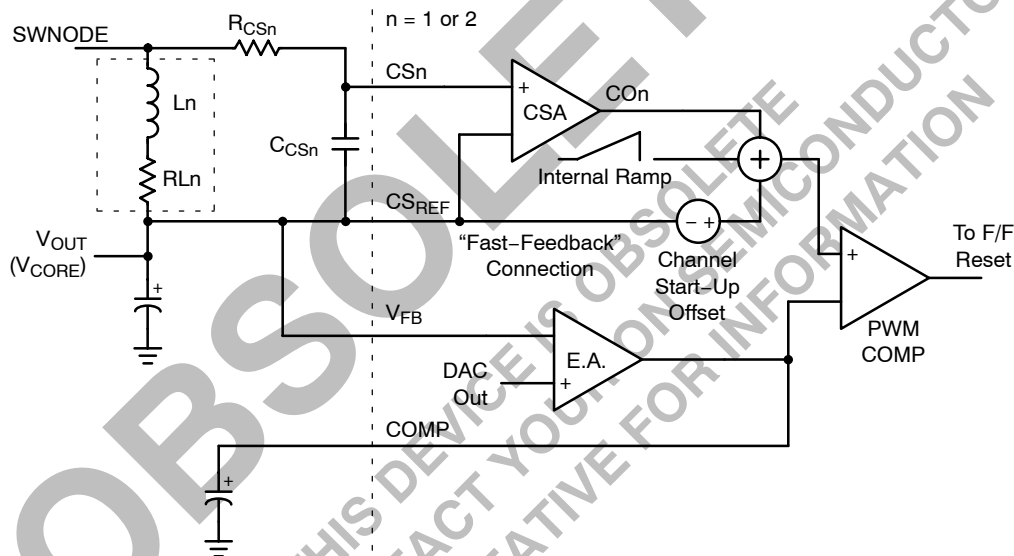

Figure 11. Enhanced V2 Control Employing Lossless Inductive Current Sensing and Internal Ramp
For lossless sensing, current can be sensed across the inductor as shown in Figure 11. In the diagram, L is the output inductance and RL is the inherent inductor resistance. To compensate the current sense signal, the values of RCSn and CCSn are chosen so that  $L/R_L = R_{CS_n} \cdot C_{CS_n}$ . If this criteria is met, the current sense signal will be the same shape as the inductor current and the voltage signal at CSn will represent the instantaneous value of inductor current. Also, the circuit can be analyzed as if a sense resistor of value RL was used as a sense resistor (RS).